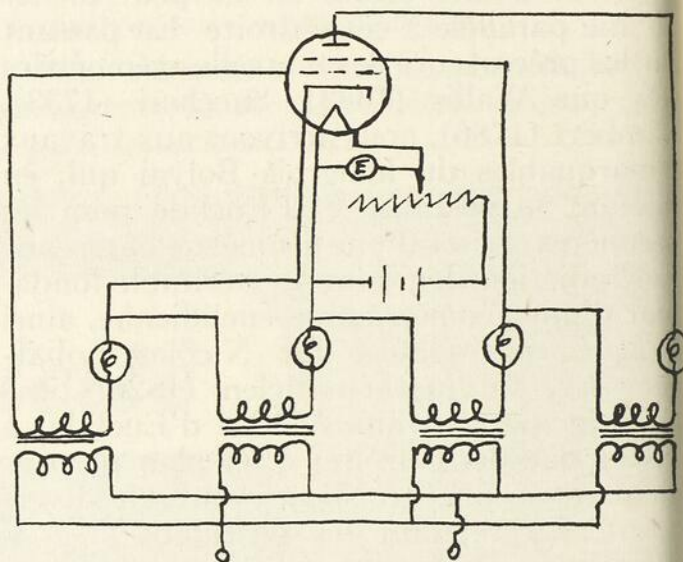

Fig. 17
*Short Circuit Test.*—The fundamental circuit of a short-circuit tester is shown in Figure 17. While this circuit is suitable for tetrodes and types having less than four electrodes, tubes of more electrodes may be